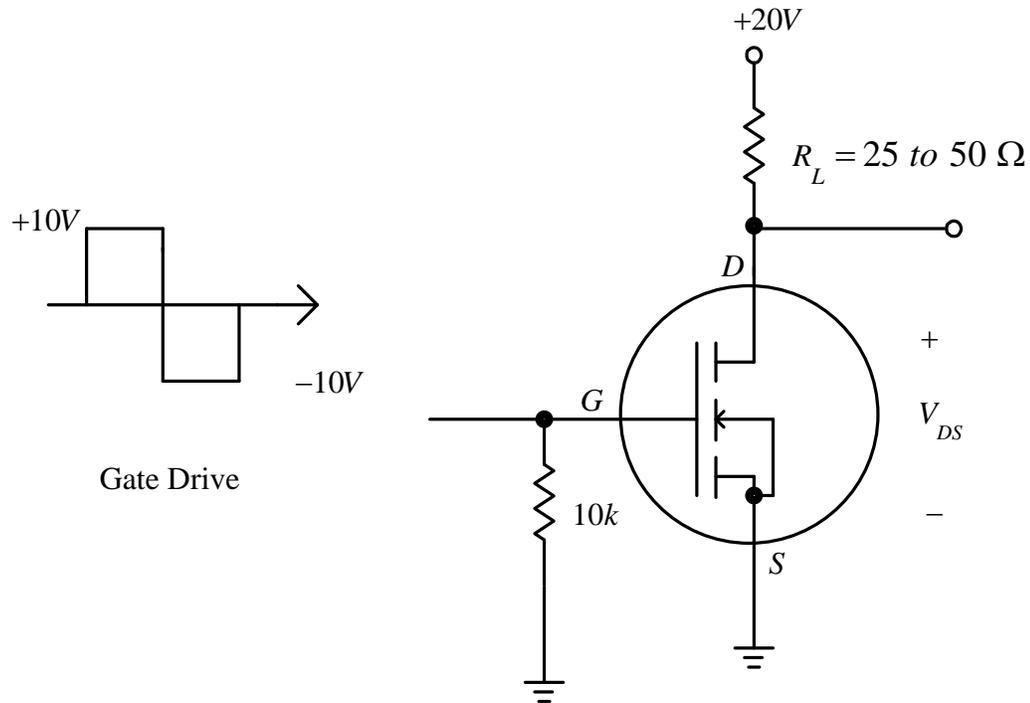

Fig. 5. Driving a resistive load with a power *MOSFET*.
1. Using an *RFPI4N05 MOSFET*, construct the circuit of Fig. 5. (the instructor will have the *MOSFET*'s data sheet.) **CAUTION!** These transistors are vulnerable to static charges. Discharge yourself before handling the device! Also, NEVER apply power to a *MOSFET* before the gate is properly terminated. If the gate is left open, it will turn on when the power supply is connected to the circuit!